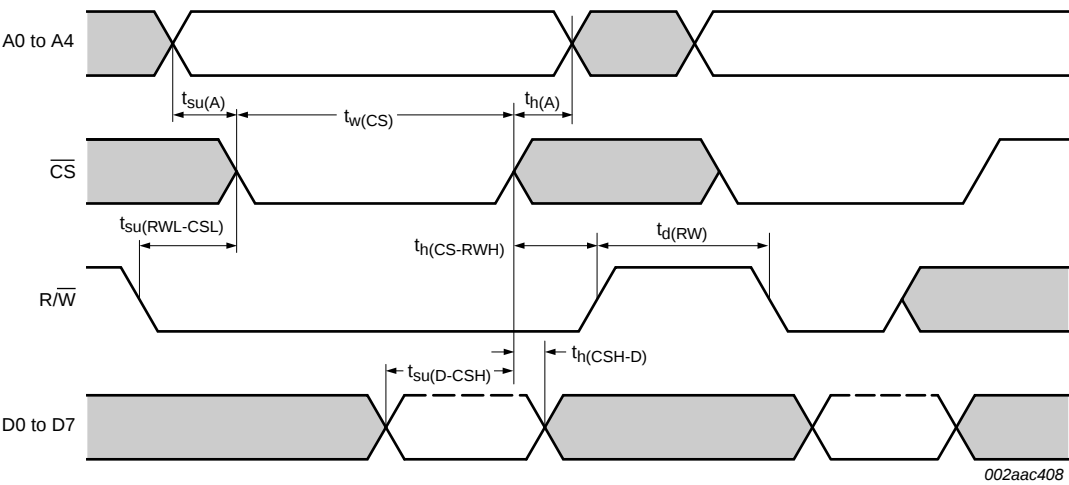

Fig 11. General write timing (68 mode)
(1) $\overline{CS}$ timing during a write cycle. See Figure 11.